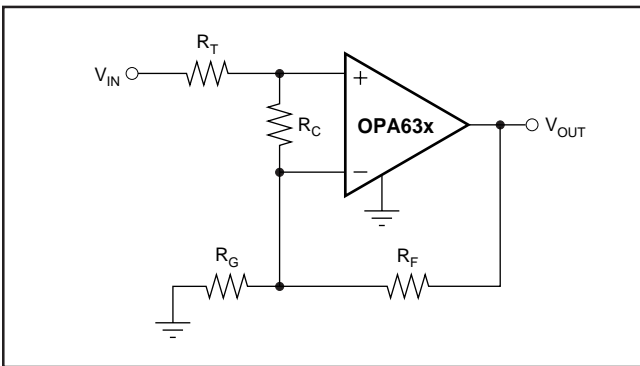

FIGURE 4. Compensated Non-Inverting Amplifier.
Figure 4 shows a non-inverting amplifier that reduces peaking at low gains. The resistor  $R_C$  compensates the OPA634 or OPA635 to have higher Noise Gain (NG), which reduces the AC response peaking (typically 5dB at  $G = +1$  without  $R_C$ ) without changing the DC gain.  $V_{IN}$  needs to be a low impedance source, such as an op amp. The resistor values are low to reduce noise. Using both  $R_T$  and  $R_F$  helps minimize the impact of parasitic impedances.
Since the OPA634 and OPA635 are voltage feedback op amps, a wide range of resistor values may be used for the feedback and gain setting resistors. The primary limits on these values are set by dynamic range (noise and distortion) and parasitic capacitance considerations. For a non-inverting unity gain follower application, the feedback connection should be made with a  $25\Omega$  resistor, not a direct short (see Figure 4). This will isolate the inverting input capacitance from the output pin and improve the frequency response flatness. Usually, for  $G > 1$  application, the feedback resistor value should be between  $200\Omega$  and  $1.5k\Omega$ . Below  $200\Omega$ , the feedback network will present additional output loading which can degrade the harmonic distortion performance. Above  $1.5k\Omega$ , the typical parasitic capacitance (approximately  $0.2pF$ ) across the feedback resistor may cause unintentional band-limiting in the amplifier response.
The criterion for setting this  $R_S$  resistor is a maximum bandwidth, flat frequency response at the load. For a gain of  $+2$ , the frequency response at the output pin is already slightly peaked without the capacitive load, requiring relatively high values of  $R_S$  to flatten the response at the load. Increasing the noise gain will also reduce the peaking (see Figure 4).
Resistors should be a very low reactance type. Surface-mount resistors work best and allow a tighter overall layout. Metal film or carbon composition axially-leaded resistors can also provide good high frequency performance. Again, keep their leads and PC board traces as short as possible. Never use wirewound type resistors in a high frequency application. Since the output pin and inverting input pin are the most sensitive to parasitic capacitance, always position the feedback and series output resistor, if any, as close as possible to the output pin. Other network components, such as non-inverting input termination resistors, should also be placed close to the package. Where double-side component mounting is allowed, place the feedback resistor directly under the package on the other side of the board between the output and inverting input pins. Even with a low parasitic capacitance shunting the external resistors, excessively high resistor values can create significant time constants that can degrade performance. Good axial metal film or surface-mount resistors have approximately  $0.2\text{pF}$  in shunt with the resistor. For resistor values  $>1.5\text{k}\Omega$ , this parasitic capacitance can add a pole and/or zero below  $500\text{MHz}$  that can effect circuit operation. Keep resistor values as low as possible consistent with load driving considerations. The  $750\Omega$  feedback used in the typical performance specifications is a good starting point for design. See Figure 4 for the unity gain follower application.